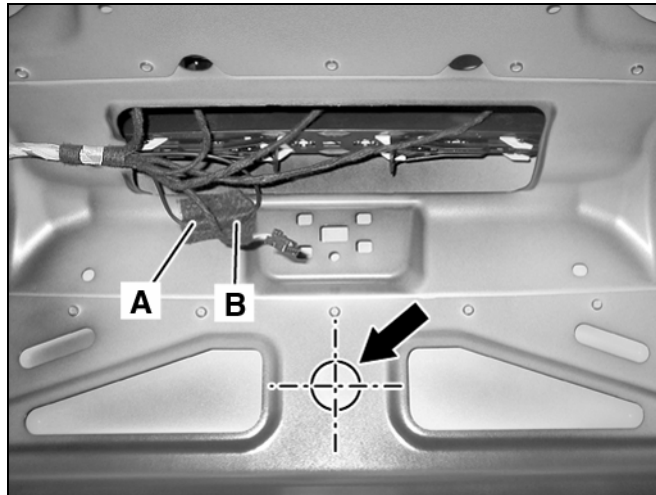

Figure 1
2. Mark the interior of the trunk lid at the center of the recessed hole (arrow, Figure 1).